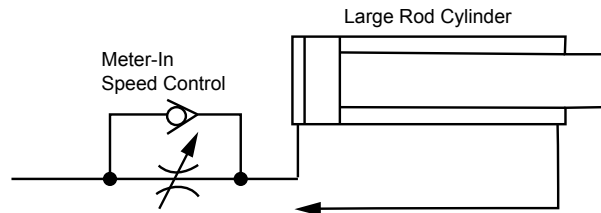

Figure 3. Meter-in speed control is preferred for cylinders with oversize or 2:1 ratio piston rods.
1. If the cylinder has an oversize or 2:1 ratio piston rod (**Figure 3**), and is feeding in the extension direction, meter-in control may work better because there will be more oil entering the blind end than leaving the rod end and can be metered more accurately. If this large rod cylinder is feeding in retraction, then meter-out control may work better for the same reason.